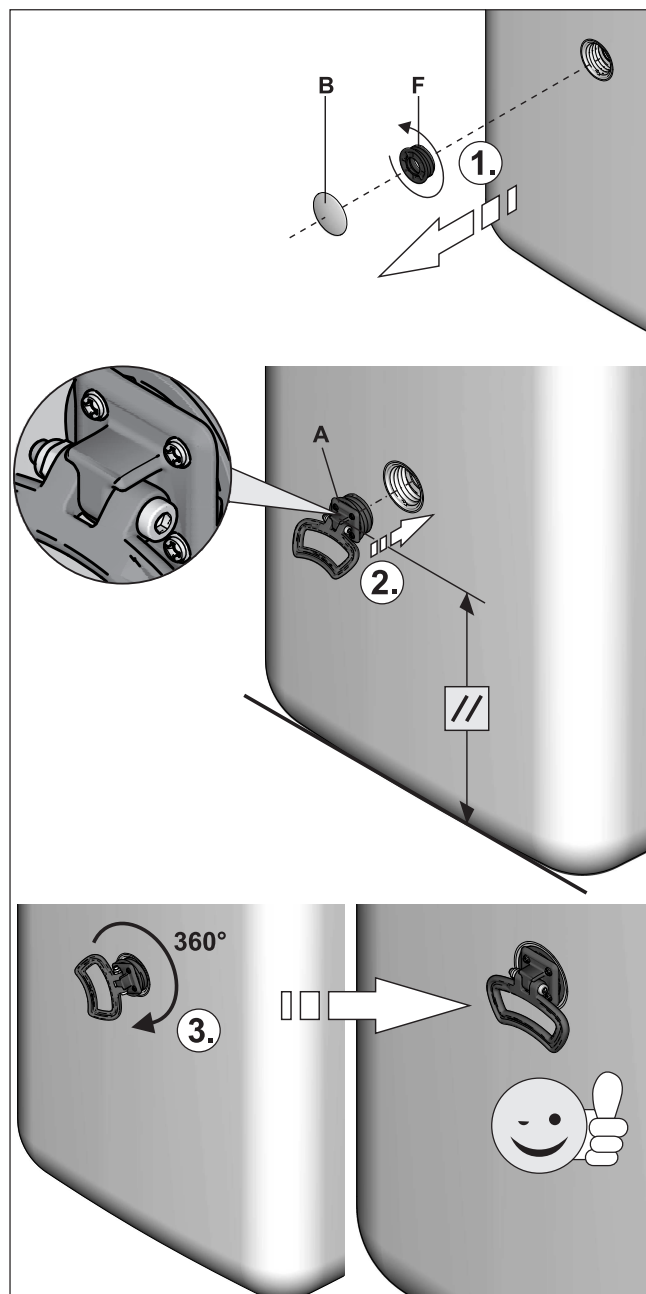

Fig. 4-6 Installing the handles
- Pull off the cover screens from the storage tank (Fig. 4-6, item B) and unscrew the threaded fittings (Fig. 4-6, item F) from the openings at which the handles are to be fitted.
- Screw the handles (Fig. 4-6, item A) into the now uncovered threaded holes.